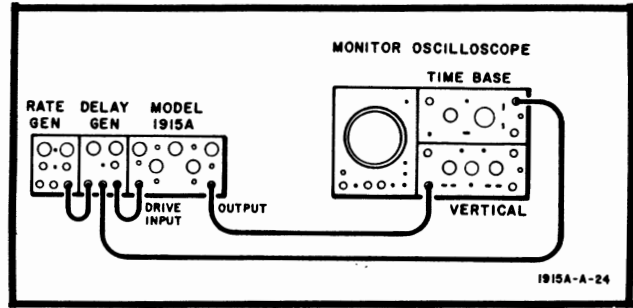

Figure 5-1. Amplitude Test Setup
- a. Connect equipment as shown in Figure 5-1.